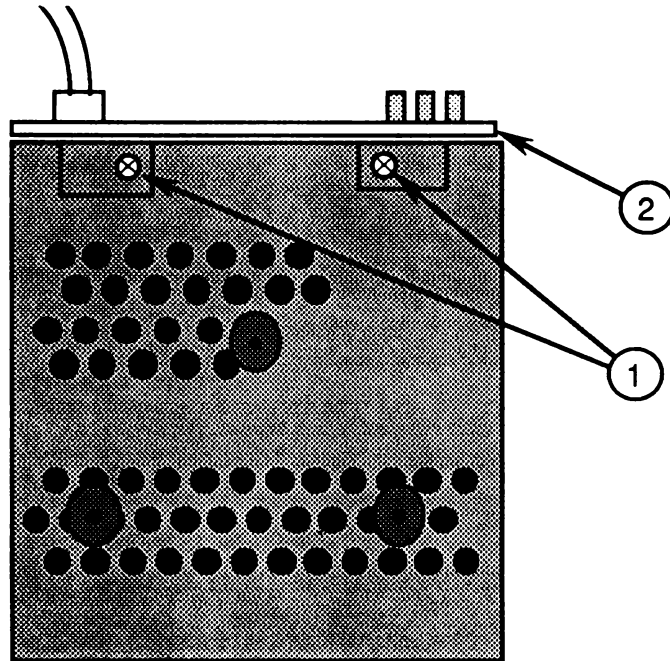

FIGURE 23
- f) Replace the two screws (Figure 23, #1) that secure the rear panel to the bottom of the metal chassis.